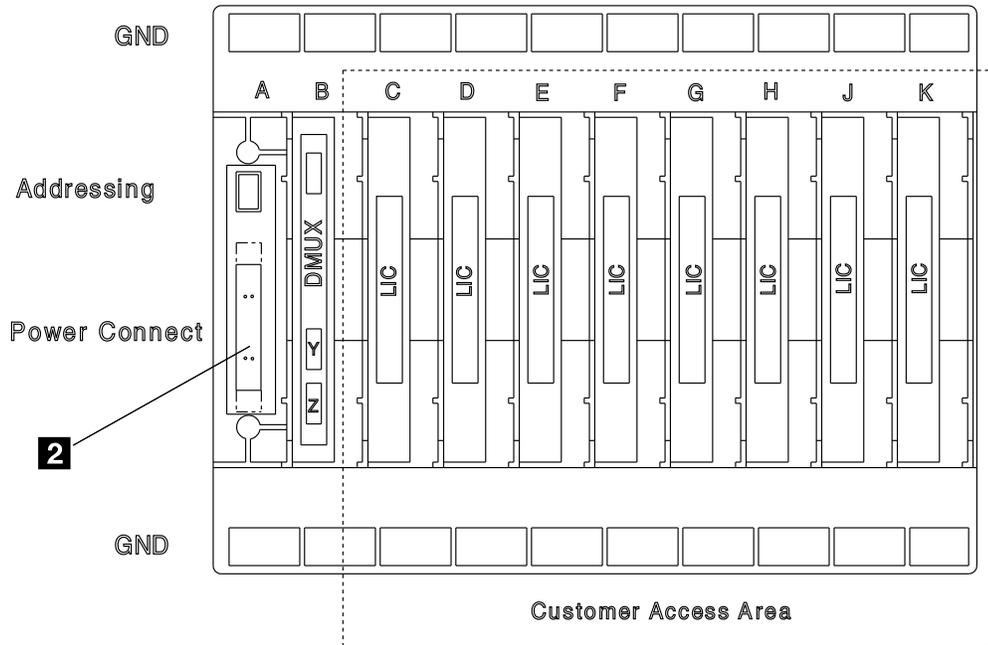
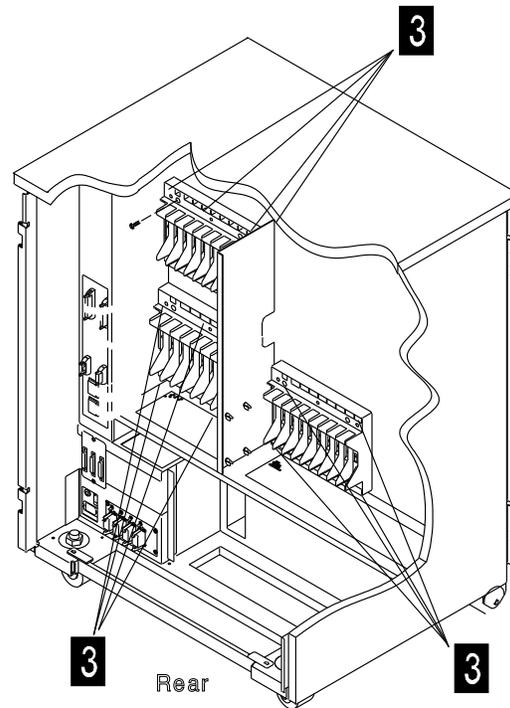

Figure 4-117. LIC Locations
Figure 4-118. LIC Board Assembly
8. Refer to Figure 4-117
14. Refer to Figure 4-117 on page 4-86, Figure 4-118 .
1. Refer to Figure 4-117 on page 4-86 and set the same board address as you noted during the board removal.
2. Refer to Figure 4-118. Mount the new LIC board assembly in place and secure it with the four screws **3**.
3. Refer to Figure 4-117 on page 4-86. Reconnect the flat power cable **2**.